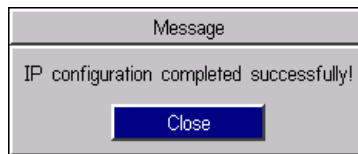

Figure 2-8: IP Configuration Successful Message Box
- 11 Cycle power on the In-Sight 4000 by removing, then reinserting, the RJ-45 connector from the sensor's Breakout port. The message in Figure 2-8 appears when the In-Sight 4000 is located on the network.